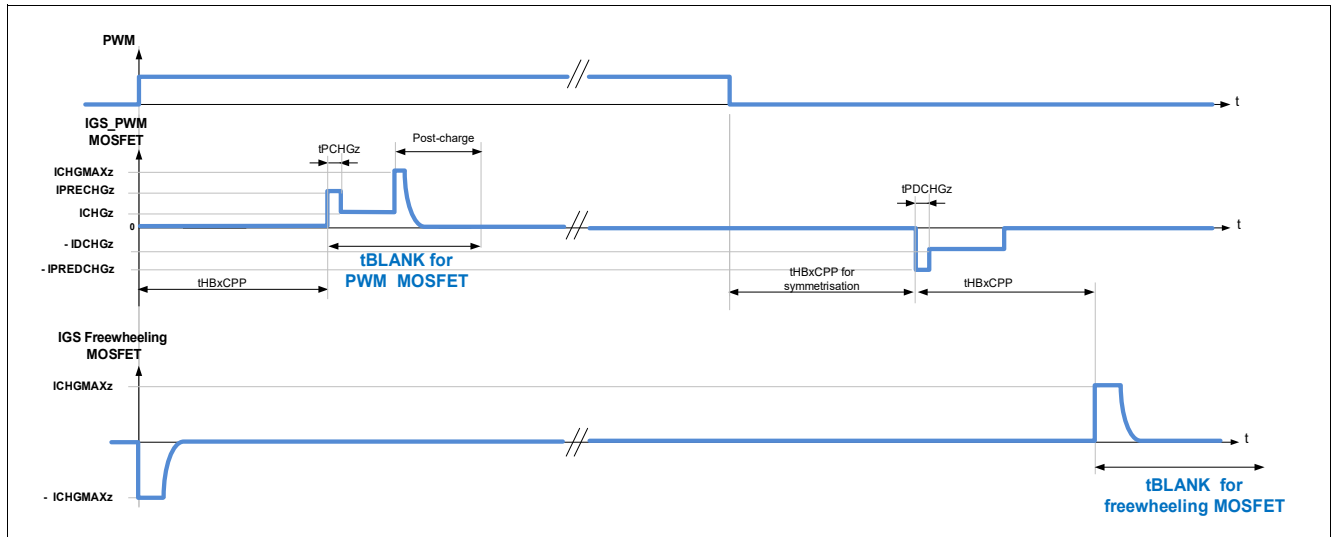

Figure 72 Blank time for half-bridges in PWM operation with $AFW = 1$
- the blank time of the PWM MOSFET starts at the expiration of the cross-current protection time of the PWM MOSFET. Refer to **Figure 72**.
- the blank time of the free-wheeling MOSFET starts after expiration of the cross-current protection time at turn-off of the PWM MOSFET. Refer to **Figure 72**.